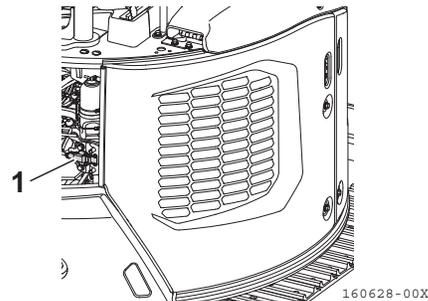

Fig. 2-68
2. Pull the lock lever (**Fig. 2-68, 1**) back and open the right hood.